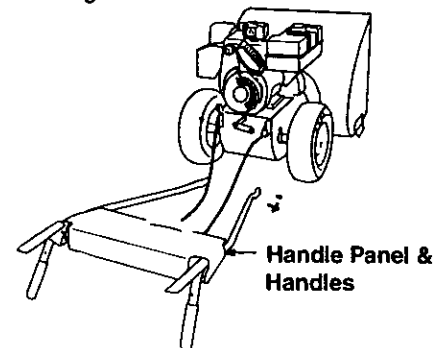

Figure 3
- Lay handle panel assembly behind snow thrower as shown in Figure 3.